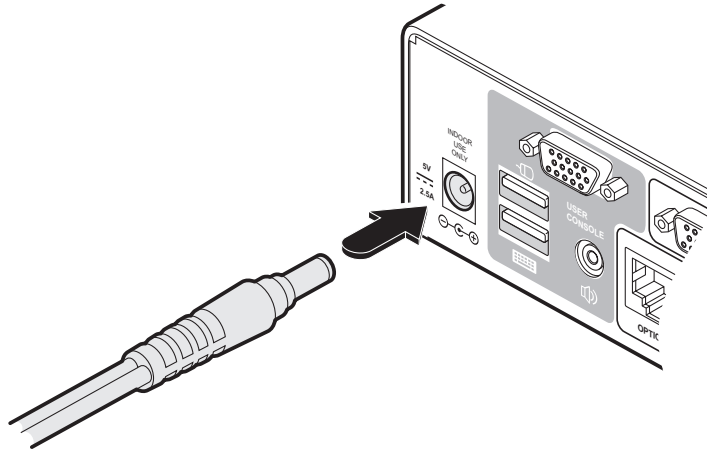

Figure 3-11. Attaching the power adapter lead to the power input socket.
- 1 Attach the output lead from the power adapter to the 5V socket on the rear panel of the unit. See Figure 3-11.